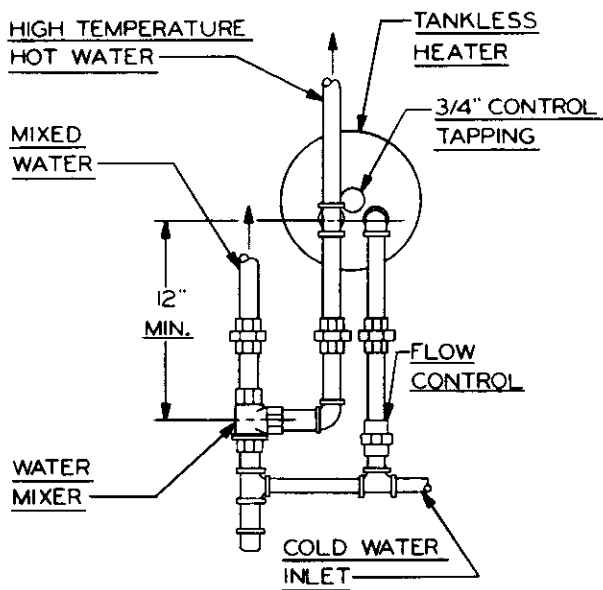

FIGURE 4
- 4 – Open trim carton. Remove Flue Collector Cover Plate and Blanket Seal (Items 10 and 11) and attach with the four (4) $\frac{5}{16}$ " x $1\frac{1}{2}$ " studs, nuts and washers provided. Attach either the Flue Collar Adapter (Item 14) or the Outlet Cover Plate (Item 13) to the Flue Collector Cover Plate with the nuts and washers provided making sure the rope seal (Item 12) is in place. Attach the remaining Flue Collar or Cover Plate to the rear section with four (4) $\frac{5}{16}$ " bolts and washers.
- 5 – If a tankless coil is used, (Item 9) install as pictured. Water Boiler - front section opening. Steam Boiler - rear section opening. For suggested piping of tankless water heaters refer to Figures 4 and 5.